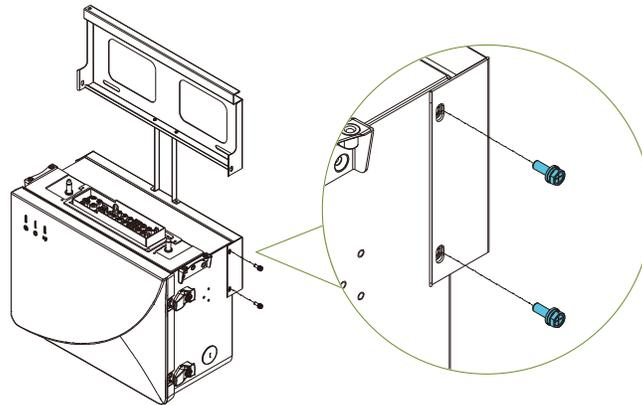

Figure 3-9 Install the Wire Box
7. Hang the inverter onto the mounting bracket as shown in Figure 3-9:
- b. **Manual mounting:** At least two (2) people are required to safely lift the inverter by the four arrow positions shown below.